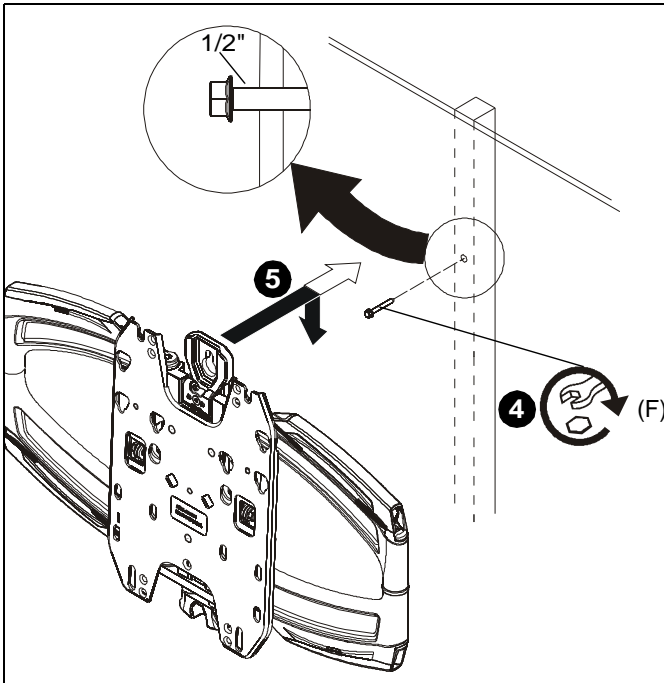

Figure 13
4. Install one 5/16- 2 1/2" flange head lag screw (F) into hole, leaving screw hanging out 1/2" from the wall. (See Figure 13)
5. Hang main assembly (M) onto lag screw (F) by latching key-shaped hole over top of screw. (See Figure 13)